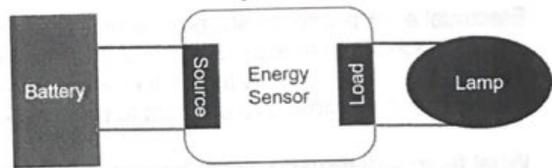

Figure 2. Lamp and Energy Sensor
12. Review Figure 2 displaying a lamp added to the system.